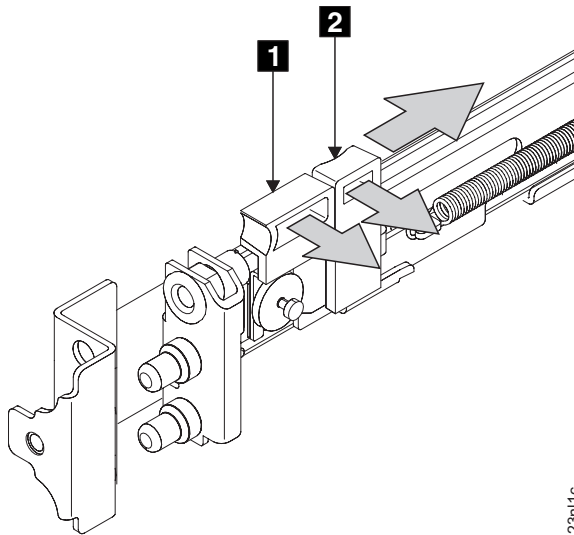

Figure 37. Opening the front latch-lock carrier assembly
3. Gently push the latch lock **2** away from the rail as you move the latch lever **1** toward the far end of the rail (Figure 37). The latch-lock carrier assembly slides against the spring tension.